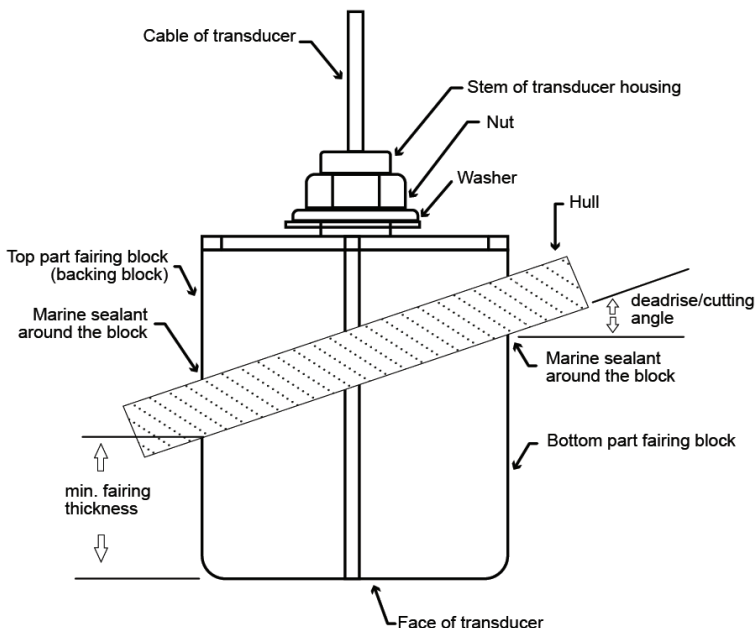

Figure 3.3 - Installation indications and measurements references
**IMPORTANT:** Respect the minimum thickness for the fairing at its thinnest dimension (see table 3.2 and figure 3.3).
**IMPORTANT:** Fairing block deadrise/cutting angle must not exceed the maximum allowed angle (see table 3.2 and figure 3.3).